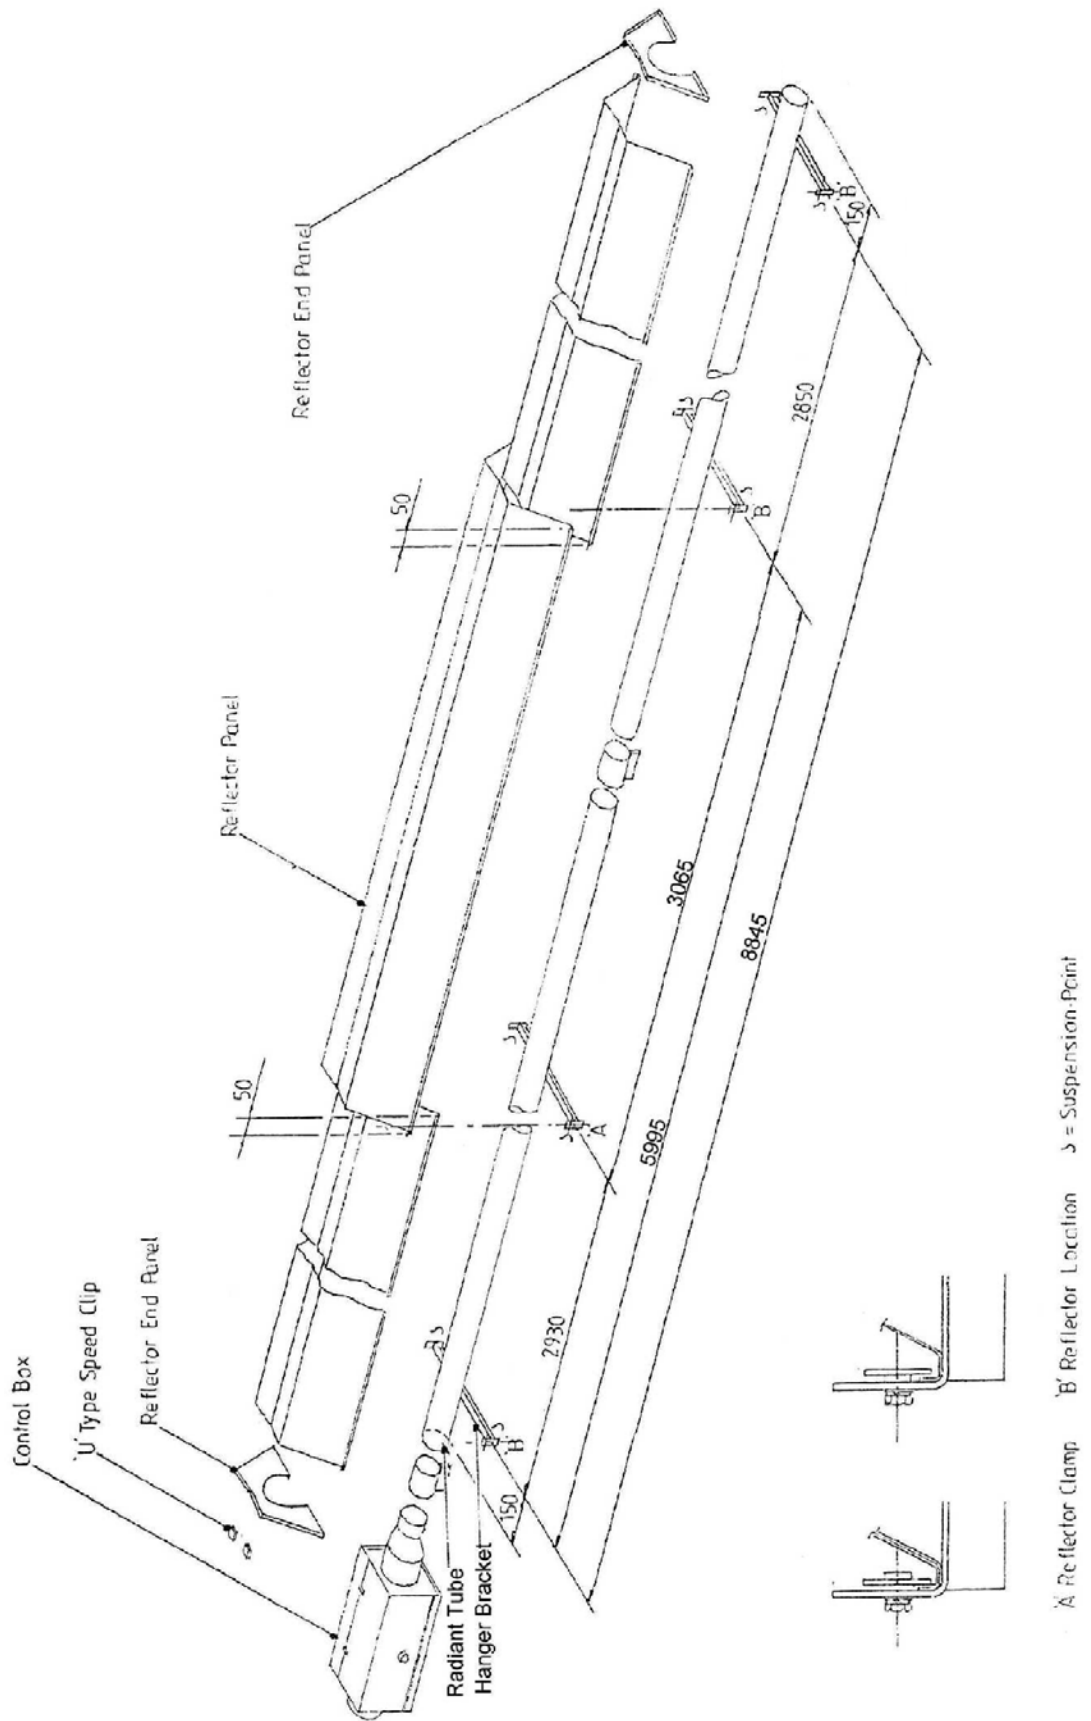

Fig. 11
- 4.2.2 Place two Radiant Tubes on trestles, providing 150mm minimum clearance above the floor and assemble two Hanger Brackets to each of the Radiant Tubes using one U bolt per bracket (from fastenings pack) and position along the Radiant Tubes as shown in Fig. 11 Ensure that the welded seam of the tubes is in contact with the Hanger Bracket i.e. facing away from the reflector. Tighten the nuts sufficiently to retain the Hanger Brackets. Do not overtighten.
- 4.2.4 The two sections should now be raised and suspended from previously fixed chains or drop rods as detailed in Section 3.1, at suspension points indicated in Fig. 11 & 12. Rope or webbing should be used when lifting from above. If using a forklift to position the appliance sections, ensure that they are balanced on the forks prior to lifting.
- 4.2.5 Place a Torctite Coupling over the open end of one Radiant Tube ensuring that it engages fully, up to the stop. Assemble the second Radiant Tube into the Torctite Coupling ensuring that it engages fully, (up to the stop), with the Hanger Brackets aligned with those of the first Radiant Tube section (see Fig. 11). Tighten the screws of the Torctite Coupling to secure the two sections of Radiant Tube to one another, taking care to maintain the tubes in a straight line.
- 4.2.6 Place two of the Reflector Panels onto the Hanger Brackets and position their outer edges such that they overhang the outer Hanger Bracket by 80mm (see Fig. 11). Place the third Reflector Panel over the two previously positioned Reflector Panels to provide a 50mm overlap at each end. Clamp the first and second Reflector Panels, where they overlap, to the second Hanger Bracket, (from Control Box) using two retainers and M6 setscrews and washers (fastenings pack). Secure the outer end of the centre Reflector Panel to the Reflector Panel furthest from the Control Box, using two 'U' type speed clips (from fastenings pack) as shown in Fig. 11. Screw the remaining (6) retainers to each of the other Hanger Brackets to provide **location** for the Reflector Panels as shown in Fig.11.
- 4.2.7 Position one Reflector End Panel over the Radiant Tube and into one end of the Reflector Panels with the End Panel flange flush with the end of the Reflector Panel. Secure the Reflector End Panel to the Reflector Panel by the use of six 'U' type speed clips provided (fastenings pack); as shown in Fig. 11.